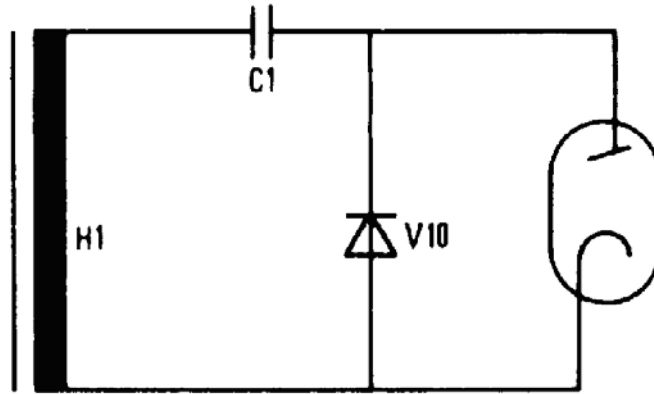

Figure 3-8. Heliodent 70 secondary circuit.
(3) You cannot measure the tube current between the points X and Y since an alternating current flows there (tube current plus capacitor-charging current). Thus, the diodes V2 and V3 have short circuited the capacitor charging current in the tube current measuring circuit. You may measure the tube current between points D1.9/D1.10. Refer to figure 3-8.